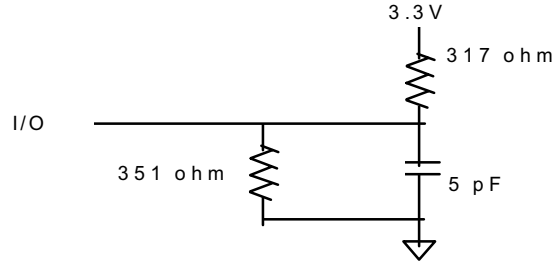

Fig.2 Output Load Equivalent
6. Output loading is specified with  $C_L = 5pF$  as in Fig. 2.